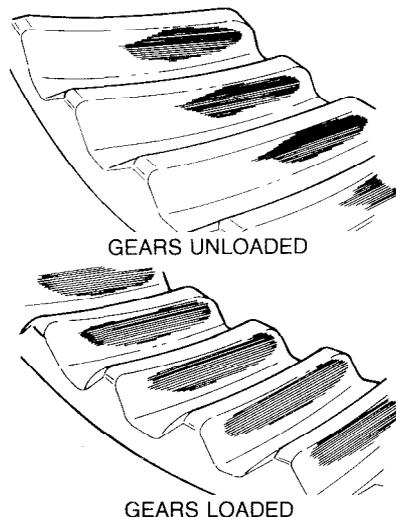

Figure 212 — Correct Contact Patterns
- w. Fig. 212 illustrates the correct contact pattern obtained when both the pinion shaft and the crownwheel are set to the correct specifications.